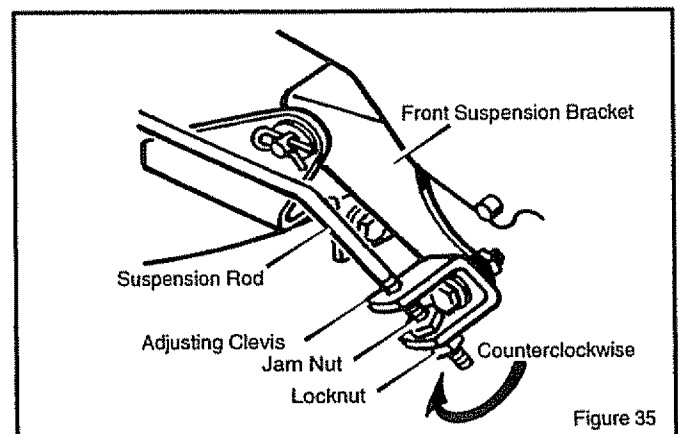

Figure 35
1. Loosen the **jam nut** (Figure 35).